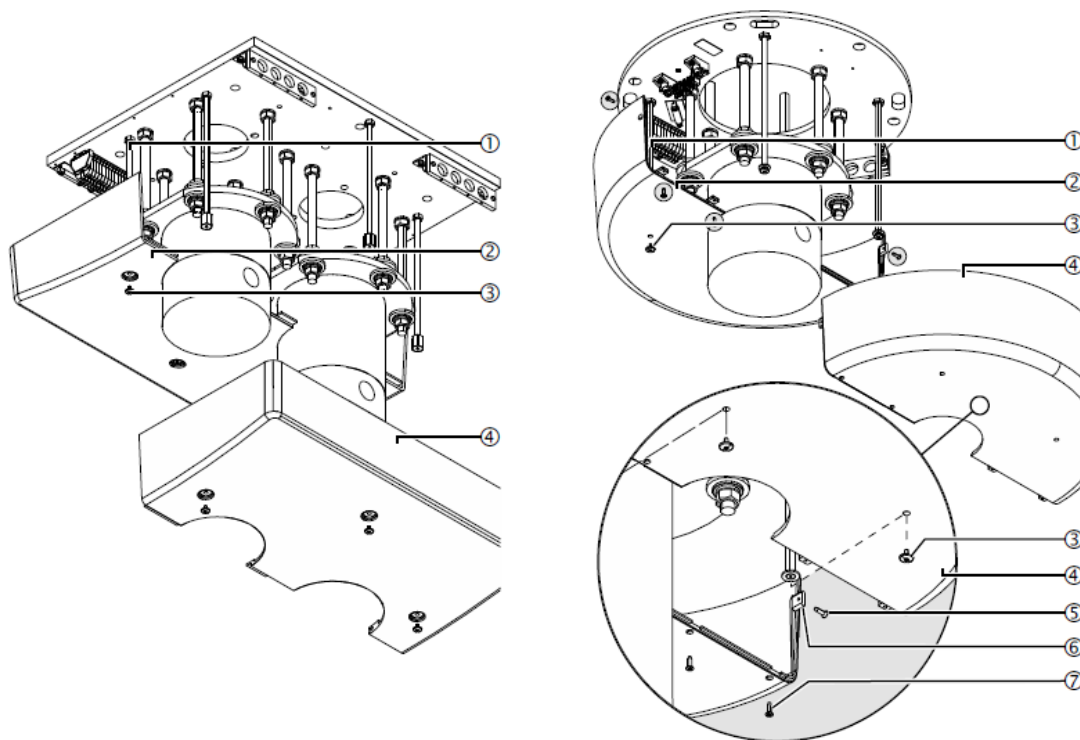

Fig. 27 Assembly of the trim halves
- Fit the U-shaped sectional strip (not shown in the figure) to the first half of the trim (2) as shown in figure 27 (optionally, the canopy can be sealed with silicone).
- Fit the first half of the trim (2) onto the M10 x 325 mm threaded bolts (1) and then screw on and tighten the cover screws (3).
- Check that the trim half (2) is flush with the false ceiling. If necessary, retighten the 4 threaded bolts M10 x 325 mm (1).
- Place the U-shaped sectional strip (not shown) over the second half of the bonnet (4) and push it onto the first half of the trim (2) so that they fit tightly together.
- Fit the second half of the trim (4) onto the M10 x 325 mm threaded bolts (1) and then screw on and tighten the cover screws (3).
- Fit and tighten the 4 special M10 nuts to cover the threaded end of the threaded bolts (1).